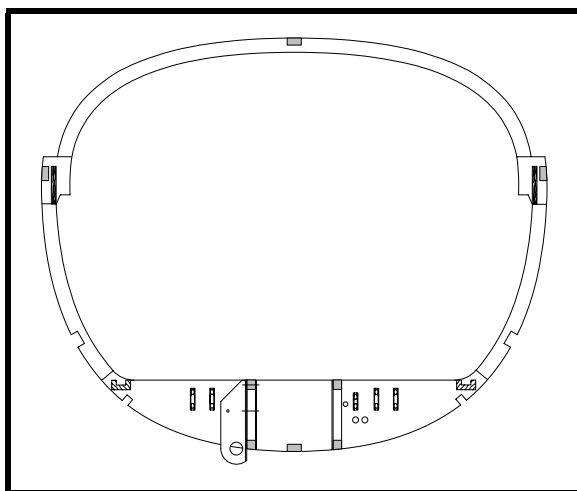

Figure 6
- ❑ Drill the four 3/16"Ø holes in the right nose wheel bay wall for P/N 717 per Drawing No. 105. To drill these holes, turn P/N 717-2 bracket upside down on the front face of frame No 3 as shown in Figure 6. Use a long drill to drill these holes from the right side of the airplane. The channel-nut for the rudder cable pulley must be removed for this operation.